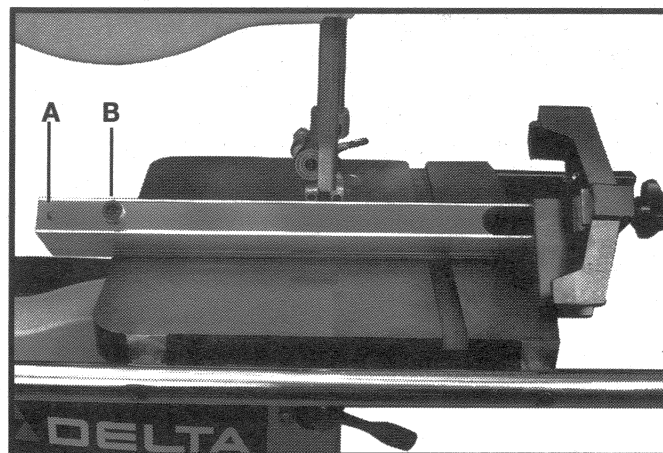

Fig. 4B
NOTE: The fence assembly is shipped ready to place on a 14" table. If you have a 16" table, move the guide (B) Fig. 4B to the other hole (A) Fig. 4B.